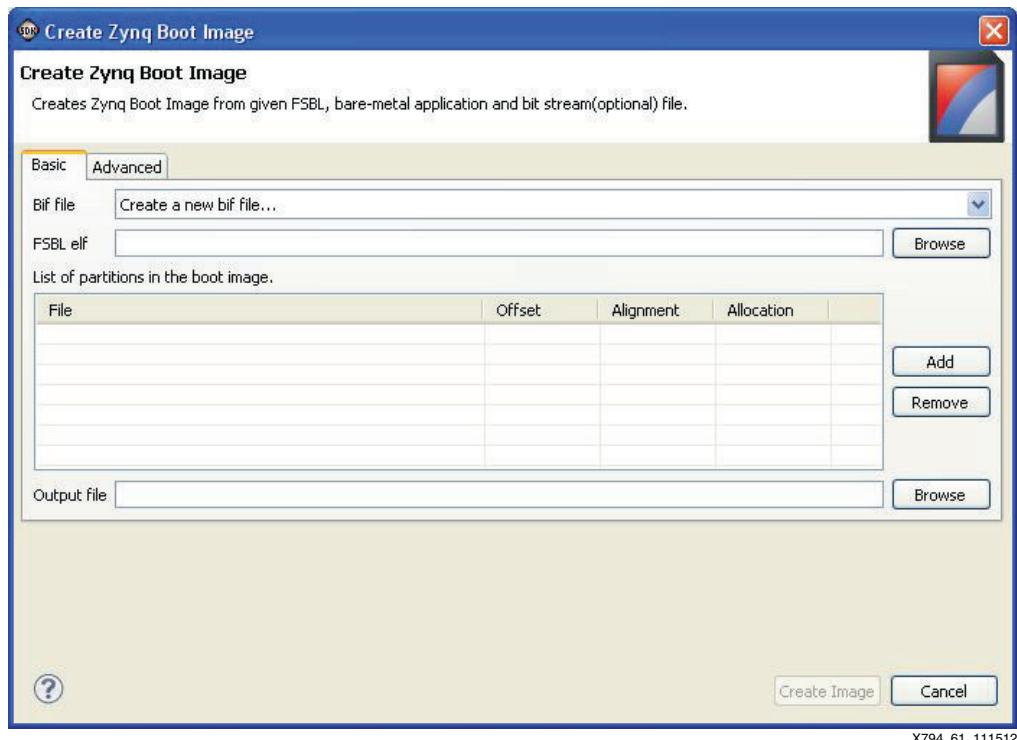

Figure 61: Create Zynq Boot Image Dialog
1. In the SDK tool window, select **Xilinx Tools > Create Boot Image** (see Figure 61).